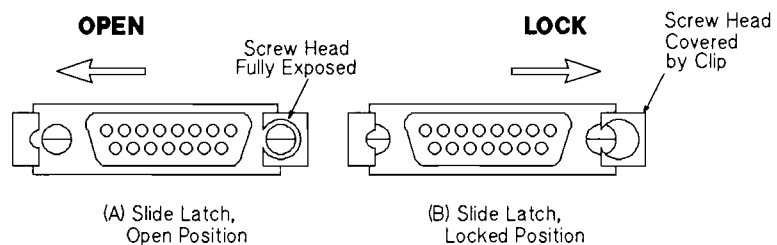

Figure D-2. Securing Cable Hold-Down Clips
- a. Slide the hold-down clip to the “open” position (see Figure D-2(A)).
- c. Slide the hold-down clip to the “locked” position (see Figure D-2(B)). This hold-down clip prevents accidental cable disconnection during operation.